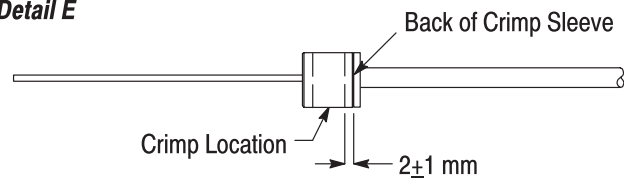

Figure 4
1. Apply 1 or 2 small drops of the instant adhesive onto the cable jacket between 4 and 5 mm from the stripped end of the jacket. See Figure 4, Detail A.
2. Slide the crimp support (large diameter end first) over the fibers and strength members and onto the jacket until it bottoms. See Figure 4, Detail B.
3. Apply a thin band of the instant adhesive around the knurled portion of the crimp support. Make sure that the band is continuous around the entire circumference. See Figure 4, Detail C.
4. Flare the strength members away from the fiber. See Figure 4, Detail C.
- Then *quickly*, before the instant adhesive *begins* to harden, slide the crimp sleeve over the fiber, pushing the strength members back over the crimp support until it bottoms on the rear flange of the crimp support. See Figure 4, Detail D.
5. Place the crimp sleeve in the 8.6-mm hex nest of the hand tool, and crimp the crimp sleeve onto the crimp support. Make sure to position the crimp sleeve in the hex nest so that the crimp will locate from the back of the crimp sleeve to within the dimension shown in Figure 4, Detail E.